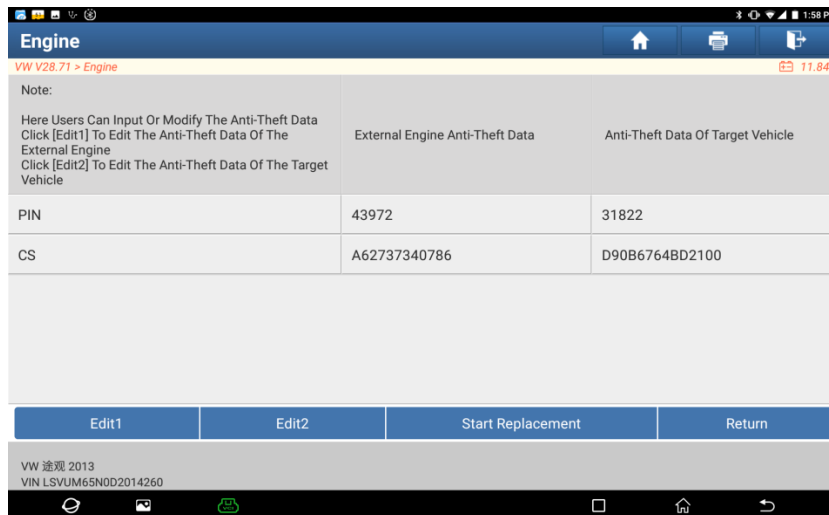

Figure 19
3.2.10 Click [Edit 2] and input the data of external Anti-Theft parts according to the steps of Edit 1. Note: Some Engines require 7 bytes, and most of them only need to add 00 to the last digit of the first 6 bytes, as shown in Figure 19.